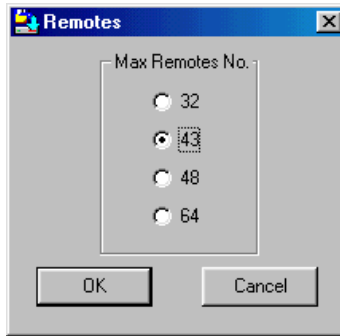

Figure 30 The Remotes box
- From the **Options** menu choose **Remotes**. The Remotes box appears see Figure 30.